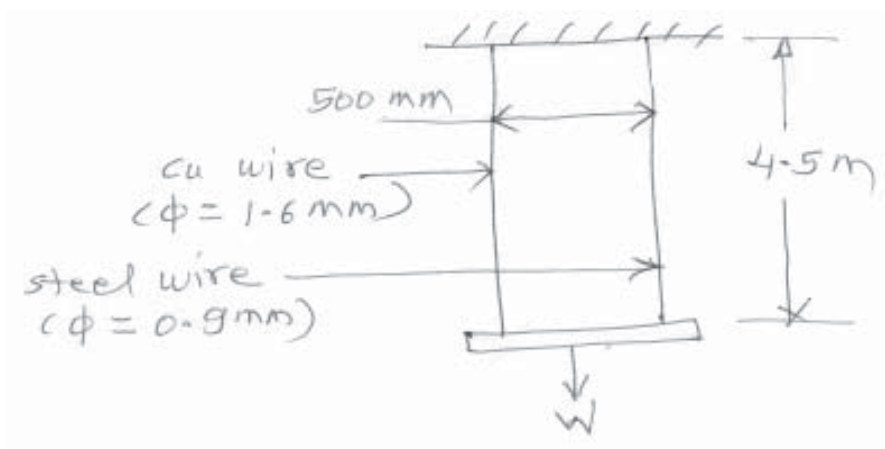

Fig. 1
- b) Two vertical wires are suspended at a distance of 500 mm apart, as shown in following Fig. 1. Their upper ends are firmly secured and their lower ends support a rigid horizontal bar which carries a load 'W'. The left wire has a diameter of 1.6 mm and is made of copper and the right wire has a diameter of 0.9 mm and is made of steel. Both wires initially are 4.5 m long. Determine the position of the line of action of 'W', if due to W, both wires extend by the same amount. Take $E_s = 2 \times 10^5 \text{ N/mm}^2$ and $E_c = 1 \times 10^5 \text{ N/mm}^2$. 8